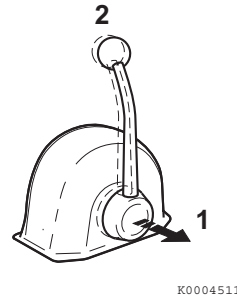

Figure 23
When the handle is pulled out (**Figure 23, (1)**), the engine speed can be controlled without engaging the clutch. The clutch remains in NEUTRAL, no load position. Turn the knob (**Figure 23, (2)**) counterclockwise to move the handle or clockwise to lock the handle.